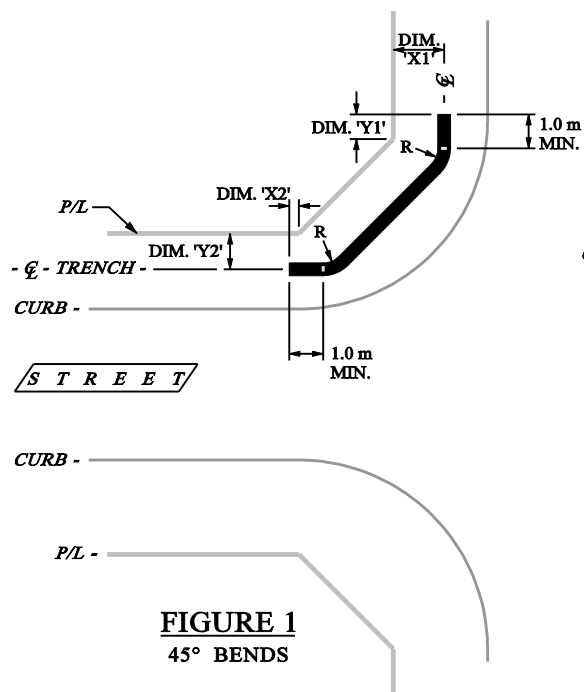

FIGURE 1
1. AT ALL BENDS, EXTEND THE CONCRETE A MINIMUM OF 1 m BEYOND THE BEND ENCASEING BOTH THE 15° - 90° ELBOW AND A 1.0 m SECTION OF THE STRAIGHT, ADJOINING DUCT . (SEE FIG. 1 & 2)
4. DIMENSION 'X' AND 'Y' SHOWN IN FIGURE 1, 2 AND 3 SHALL BE TAKEN FROM THE PROPERTY LINE (P/L) AND LOT LINE ONLY, NOT FROM THE CURB. THESE DIMENSIONS SHALL BE REFLECTED BACK TO THE DESIGN CONSTRUCTION DRAWING/S AND MARKED "AS CONSTRUCTED" FOR RECORD PURPOSES.